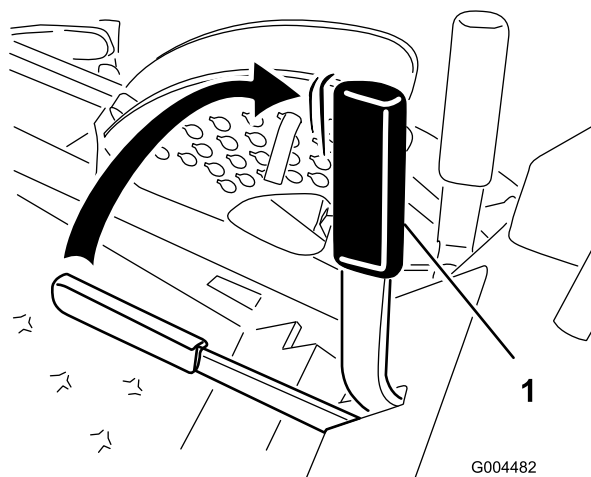

Figure 16
2. Pull up and back on the parking brake lever to set the parking brake (Figure 16). The parking brake lever should stay firmly in the engaged position.
Push forward and down on the parking brake lever to release the parking brake (Figure 16).